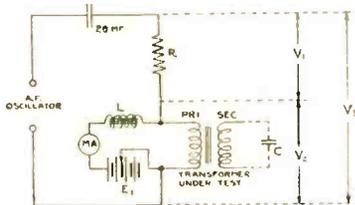

Fig. 7. Voltmeter method for determining reactance and effective resistance of transformer primary
2. It is often desired to perform this measurement with a definite value of a-c. potential applied to the primary. In this case, the well known three-voltmeter method can be used to advantage. Fig. 7 shows in outline the circuit, with means for applying a d-c. potential to the primary. The reactance of the choke  $L$  must be sufficiently high with respect to that of the transformer primary to make the effect of the shunting circuit negligible, or its inductance value must be known and its effect allowed for in the calculations.